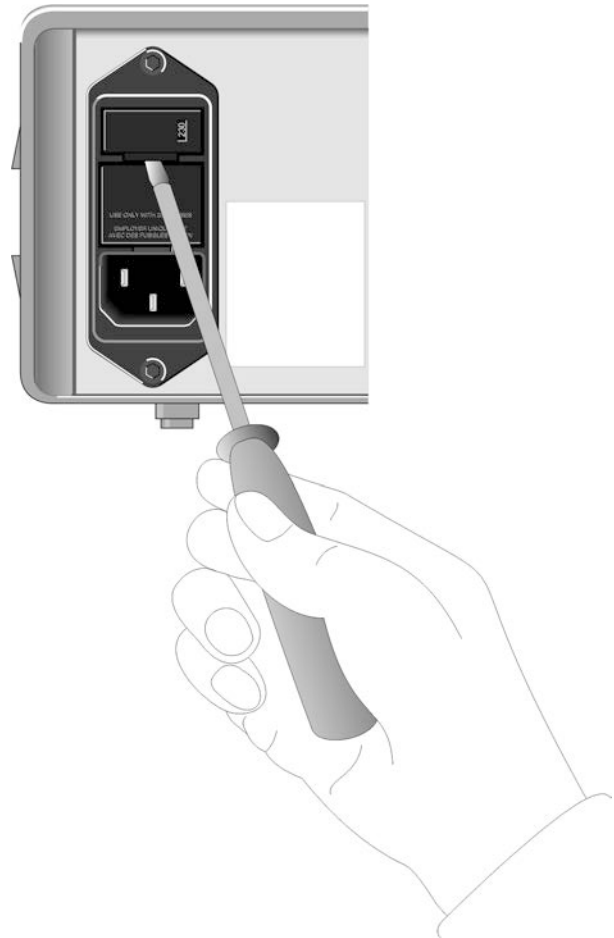

Figure 17-1: Unlocking the fuse holder
- Using a small screwdriver, carefully raise the tab of the fuse holder. Then remove the fuse holder from its compartment (Figure 17-1).
- Using a small screwdriver, carefully raise the tab of the fuse holder. Then remove the fuse holder from its compartment (Figure 17-1). Do not remove the fuse insert from the fuse holder.